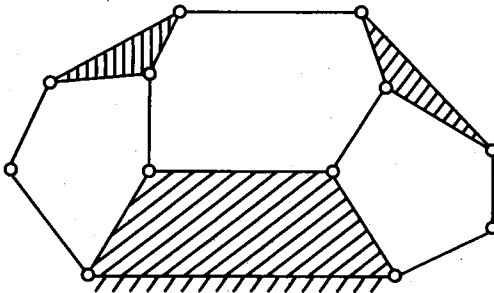

Figure 1
- (b) Explain the various pairs and distinguish them. Find the degrees of freedom of the mechanism shown in Figure 1. 7